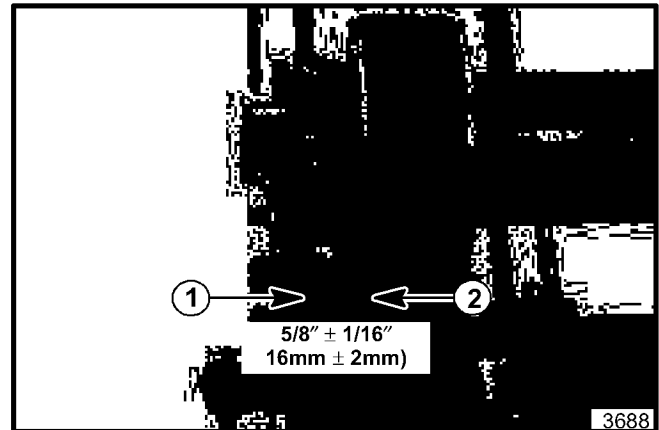

Figure 30. Reel Belt Pulley Alignment
13. Check the reel belt pulley alignment (see figure 30). If adjustment is required, loosen the set screw in the pulley and move the pulley in or out on the shaft.